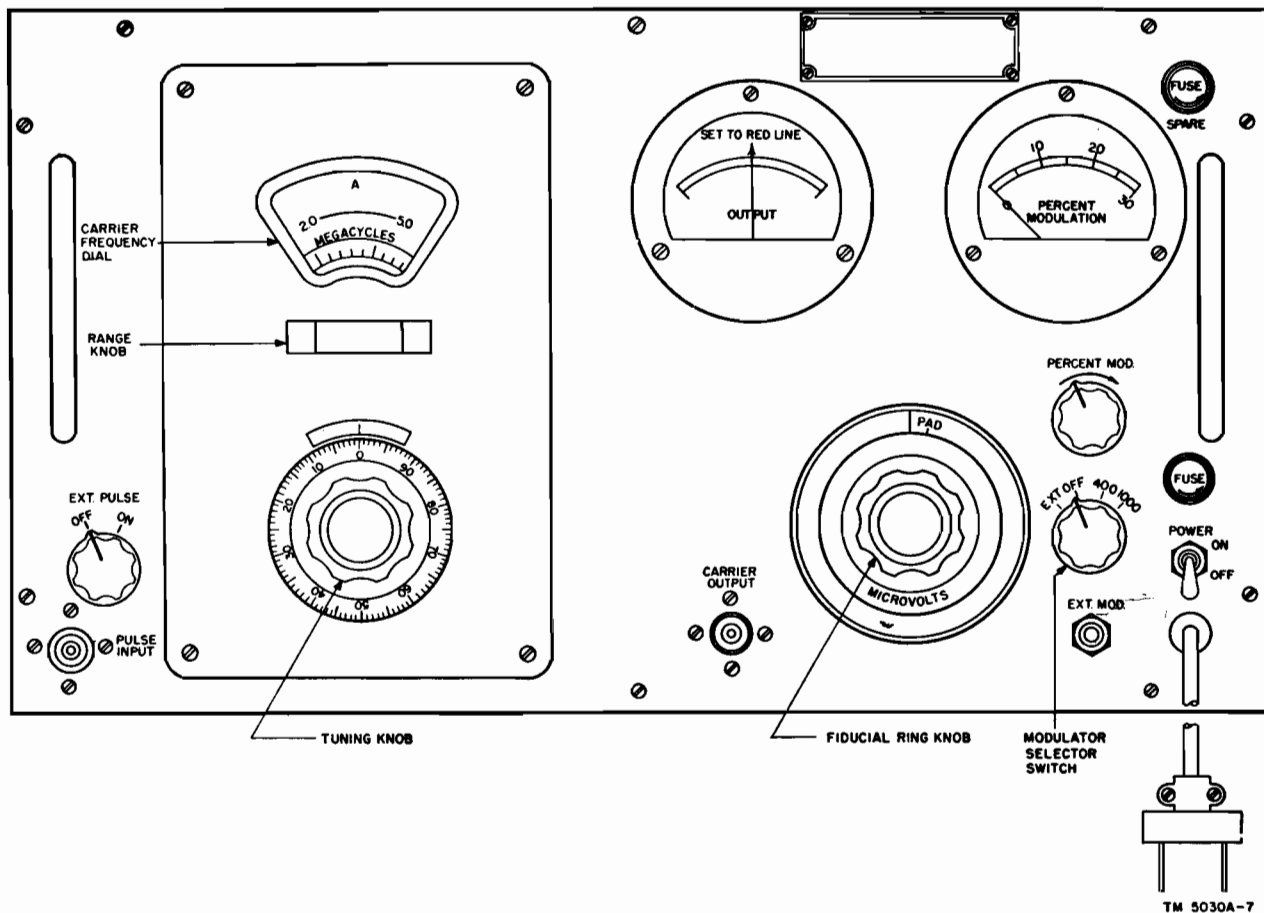

Figure 5. Signal Generator TS-497B/URR, front panel.
c. Check the fuses for the proper rating (1 amp.). They are shipped in the fuseholders. The fuseholder at the upper right-hand corner of the panel (fig. 5) is for a spare fuse.
12. Controls and Instruments and Their Uses (fig. 5)
c. Turn the POWER ON-OFF switch (fig. 5) to the ON position. Observe whether the carrier frequency dial is illuminated.
white tuning knob reference mark above the knob (fig. 5). Release the knob carefully to avoid disturbing the setting of the carrier frequency dial.